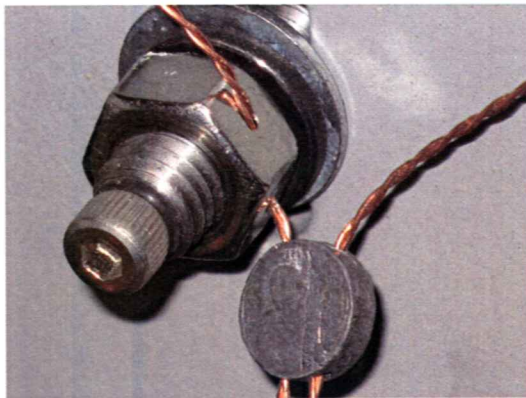

Figure 3a
**Step 3** Insert the two ends of the braided wire through the lead seal and slide the seal up the wire until the slack has been pulled out of the wire (see figure 3a).